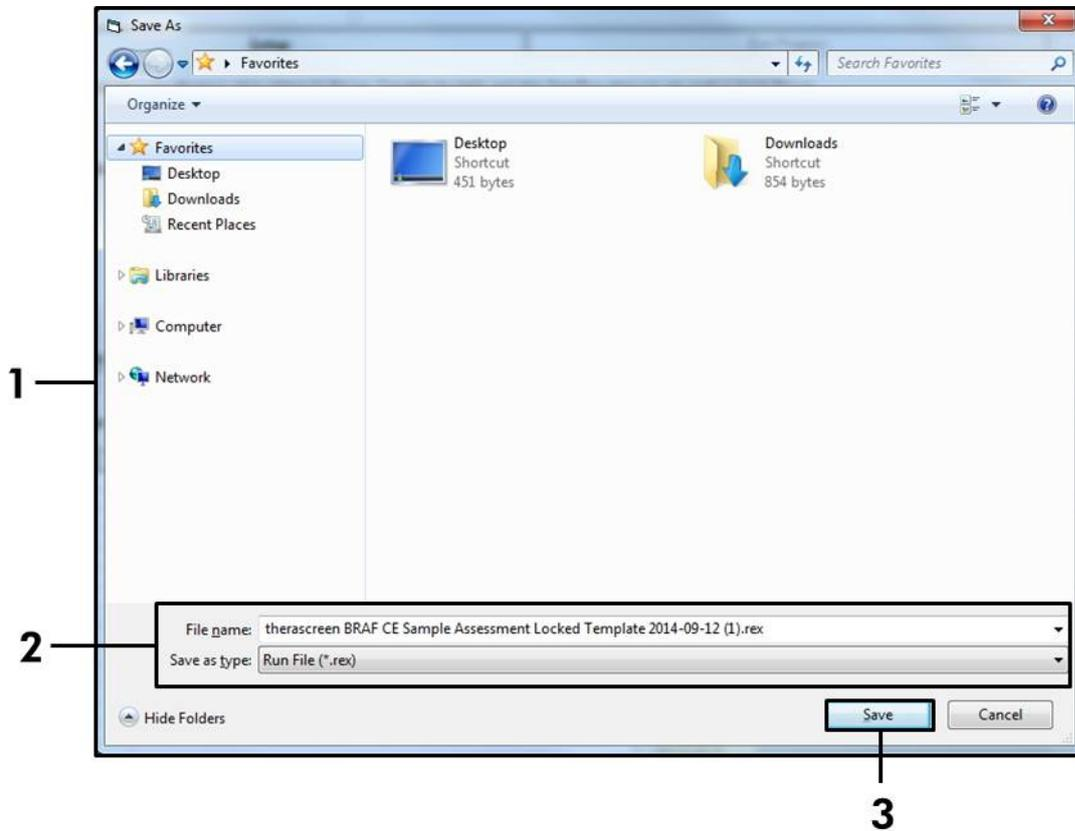

Figure 7. Saving the run file. (1 = "Save As" window, 2 = "File Name" and "Save as type" fields, 3 = "Save" button).
14. A "Save As" window appears. Chose an appropriate file name and save the PCR run as a *.rex run file to the selected location and click the "Save" button (Figure 7).